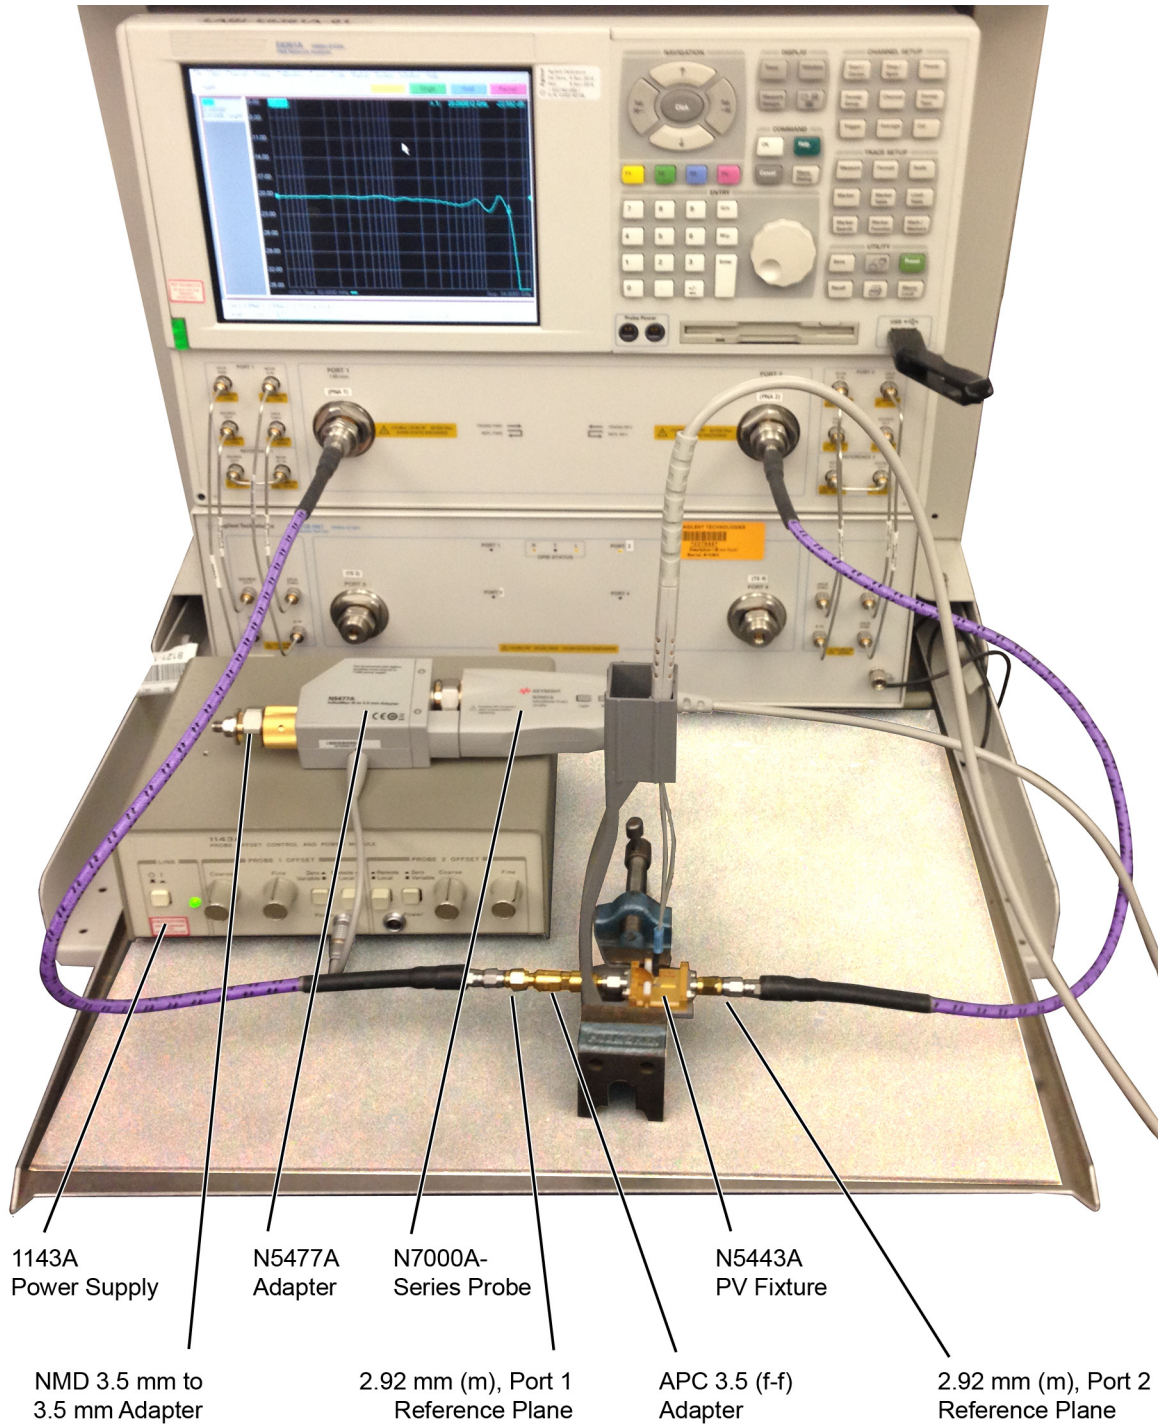

Figure 102 Test Setup for Measuring V_{in} of Probe
- 3 Connect the APC 3.5 (f-f) adapter, provided with the N5443A PV fixture, to the N5443A. as shown in **Figure 102**. Use a small bench vise to steady the N5443A PV fixture on the test surface.